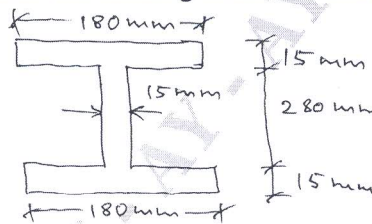

Fig.Q8(b)
b. A beam with I-section as shown in Fig.Q8(b) is subjected to a bending moment of 120 kNm and a shear force of 60 kN. Sketch the bending stress and shear stress distribution. (12 Marks)